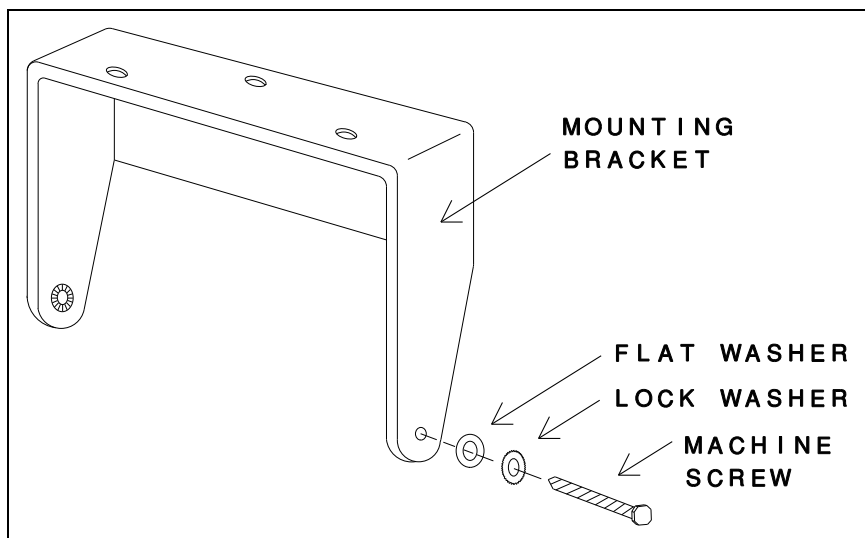

Figure 13 - Mounting The External Speaker
1. Mount the speaker so it is directed to the operator but does not cause interference with his vision. It also should not present a hazard in the event of an accident. The speaker may be mounted on the lower edge of the instrument panel, the fire wall, or above the windshield in some trucks. Use the mounting bracket as a template for locating the mounting holes, and mount the speaker as shown in Figure 13.